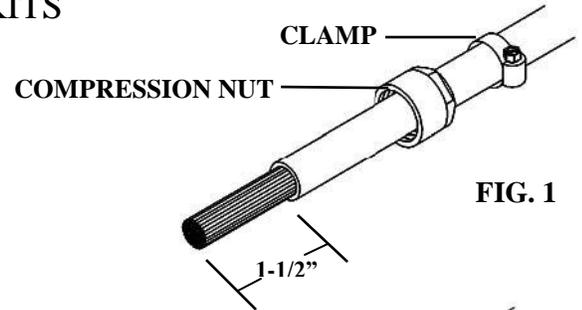

FIG. 1
1) Strip the fiber jacket back approximately 1-1/2". **FIG. 1**
2) Slide the clamp and compression nut over the fiber jacket. **FIG. 1**